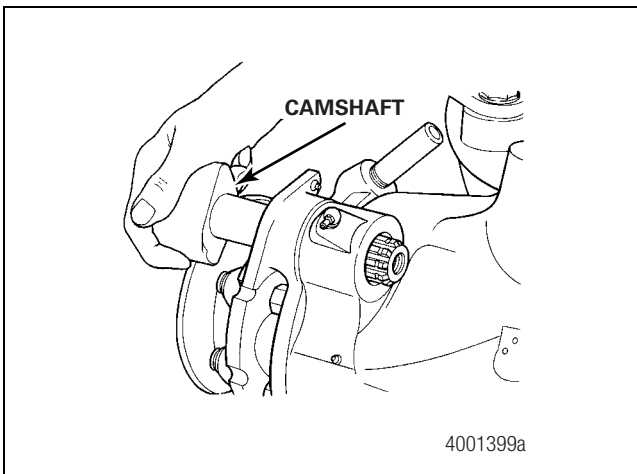

Figure 3.29
5. Remove the camshaft from the front of the bearing cage. Figure 3.29.